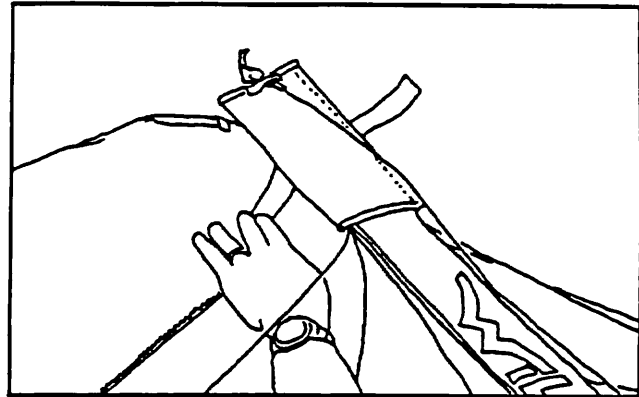

Figure 63
8) Lay the kingpost down on top of the sail along the keel, and attach the velcro on the kingpost top protector to the nose cone velcro on the sail to hold the kingpost in position. (Figure 63)